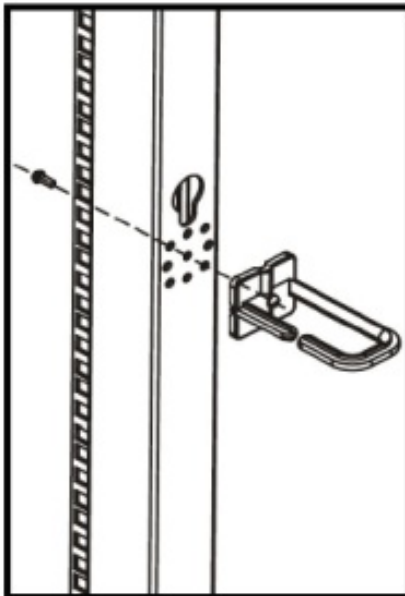

Figure 9
2. Insert a Hook Mounting Screw through the Rack and into the Cable Management Hook. (Figure 9)